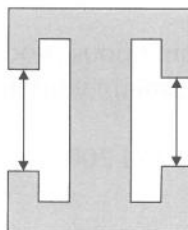

Figure 2
3 **Figure 2** shows a tool used to check that the sizes of components are consistent and within tolerance.
a) Label **Figure 2** with the dimensions needed to ensure that a component is 50 ± 1 mm thick.